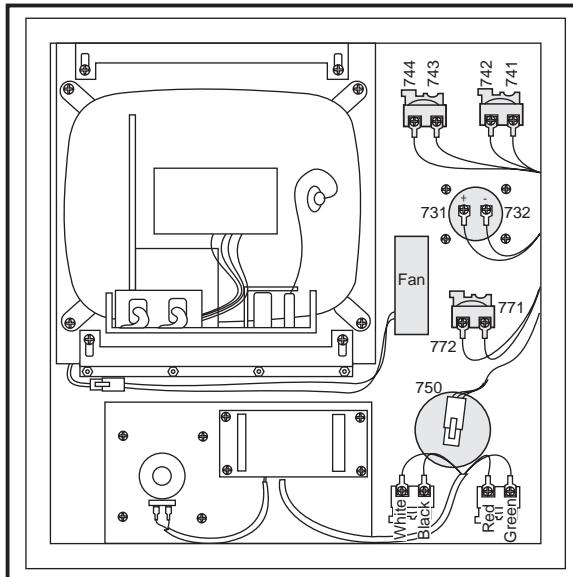

Figure 4.5-1 Interior of control panel (rear).
7. Use gloves to avoid getting fingerprints on the new LCD. Replace by sliding the new assembly onto the eight bolts (four each on top and bottom). Starting with the bottom right, place the washers and hex nuts on the bolts to hold in place. Refer to Fig. 4.5-1. Once all washers have been attached and nuts have been hand-tightened, tighten down completely with the socket.